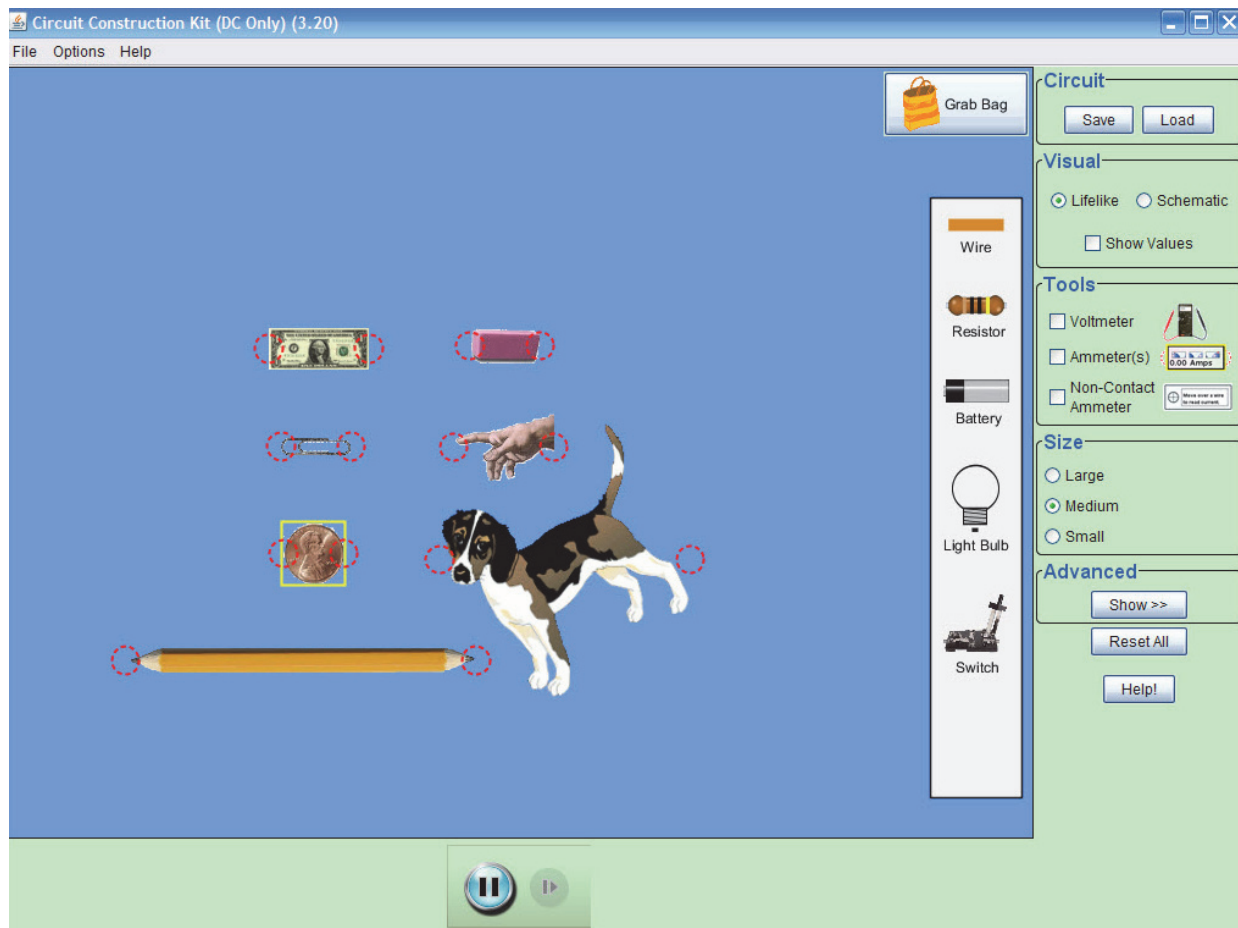

Figure 1-16
8. In the upper right corner of the page you will also view a grab bag of goodies. These materials will be utilized to demonstrate conductivity and resistivity of various materials (figure 1-16). The materials in the grab bag can be selected by clicking on the name.